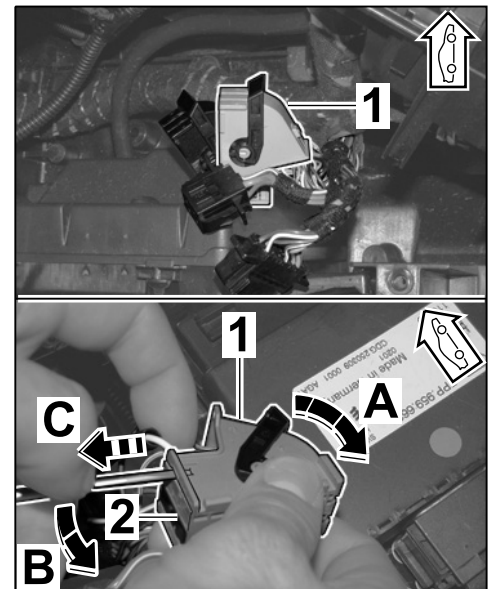

Figure 25
3.1.3 Release and remove socket strip (grey) in the connector housing (blue, 42-pin, control unit for rear-end electronics) (⇒ *Figure 25*).